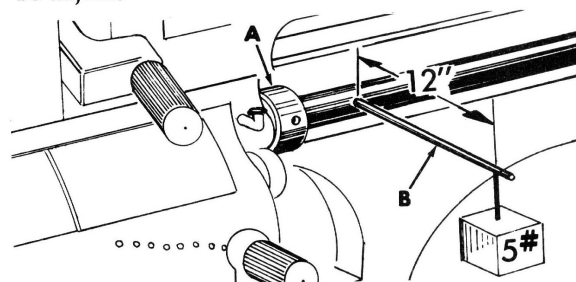

Figure 11
1. Insert  $\frac{1}{4}$ " rod (B, fig. 11) in the hole in lead screw near clutch.
3. Tighten collar (A) until clutch is properly adjusted.
**NOTE:** When lead screw safety clutch is properly adjusted, the 5 lb. weight will move slowly down. If it moves too fast, tighten collar (A). If it doesn't move, loosen collar (A).